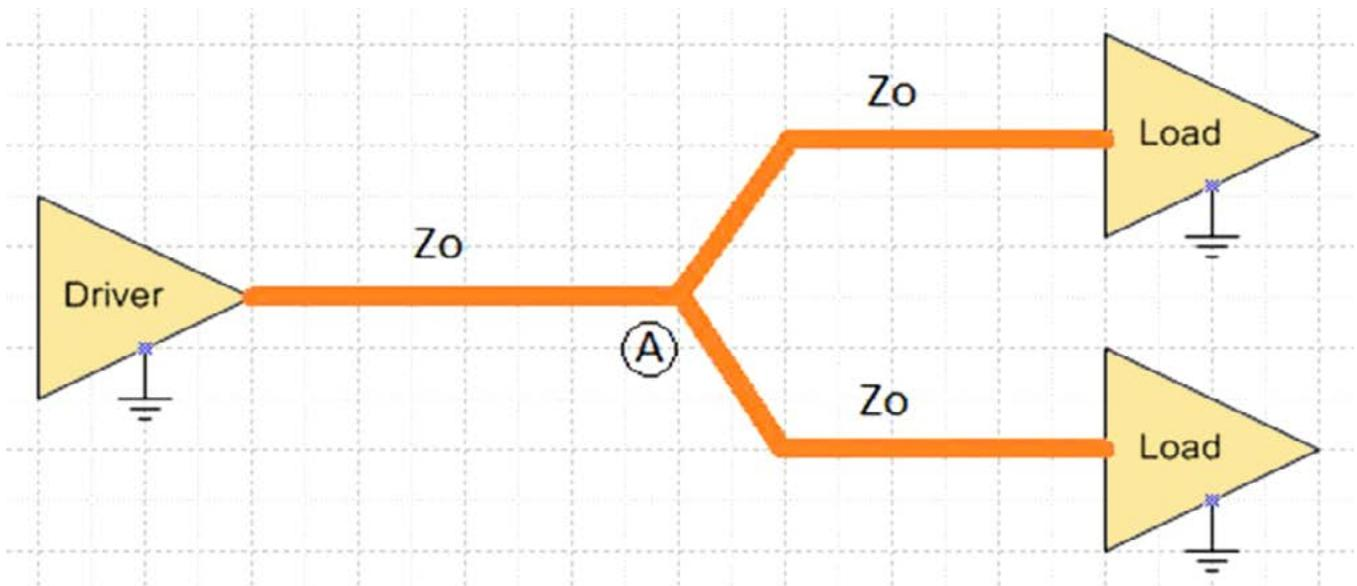

Figure 1: An unmatched bifurcated transmission line.
not constant along the trace route, as the traces branching from the T-section are virtually in parallel when you consider the equivalent AC circuit. In this case, proper termination has not been provided and an impedance discontinuity can be seen at the branch point. In Figure 1, a 50 ohm signal from the driver is split into two transmission lines of 50 ohms and then into the loads. At branch (A), the two 50 ohm traces in parallel equate to a 25 ohm equivalent trace, and a mismatch in impedance. Figure 2 illustrates the resultant waveform of the unmatched transmission line.